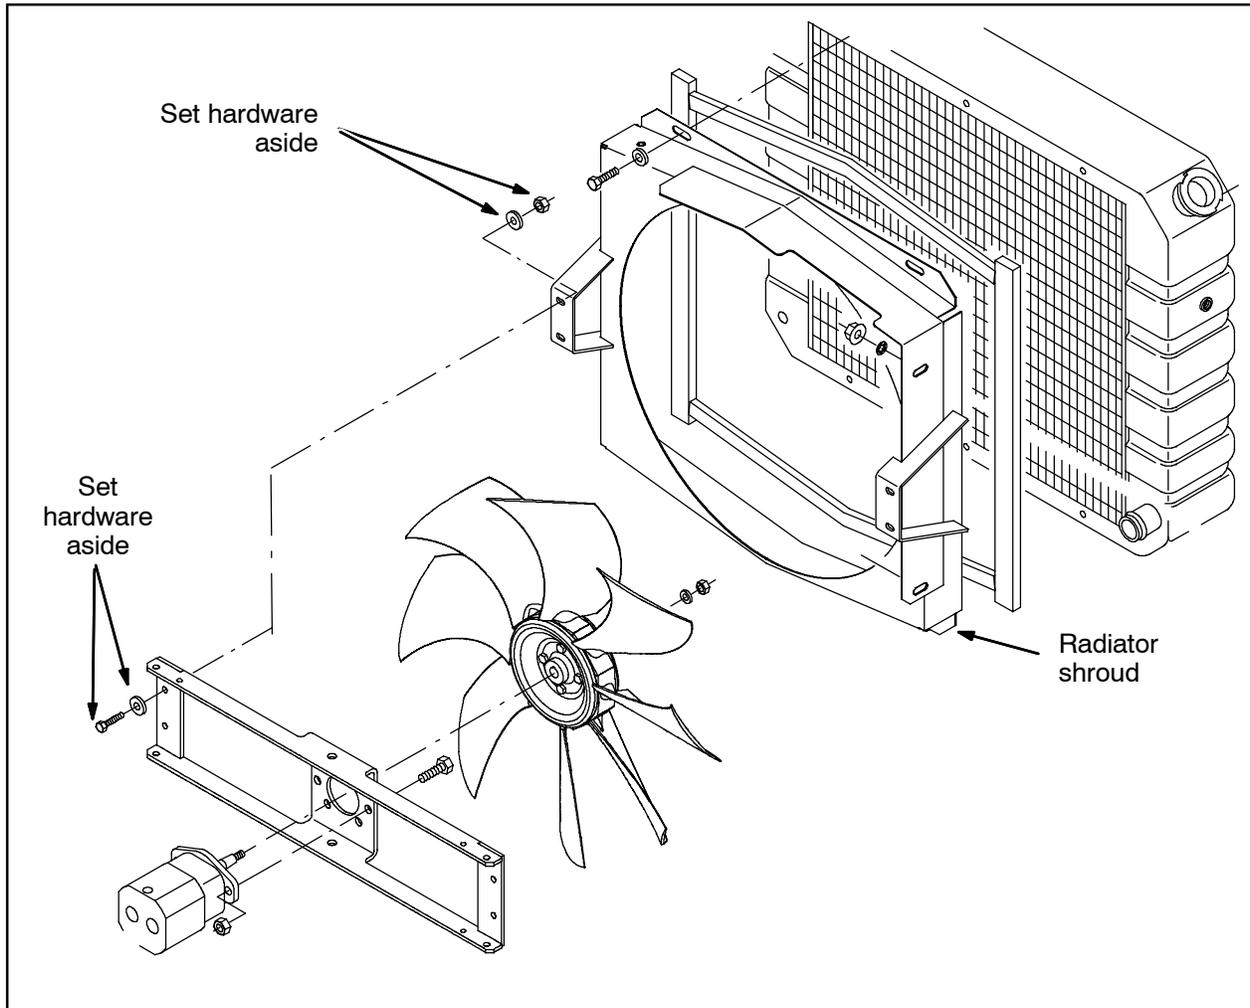

FIG. 2
2. Remove the fan motor bracket from the radiator shroud. Set all mounting hardware aside. Refer to Fig. 2.